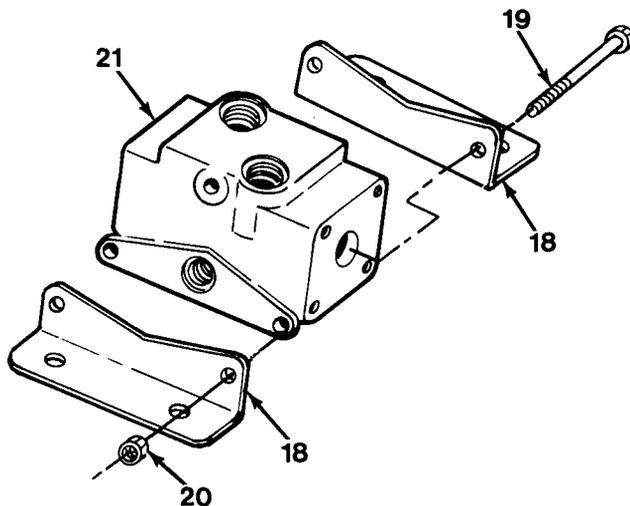

Figure 13-6
7. Remove two brackets (18), only if damaged, by removing two capscrews (19) and nuts (20, Figure 13-6).
1. If removed, install two brackets (18), two capscrews (19) and nuts (20) to body (21, Figure 13-6).